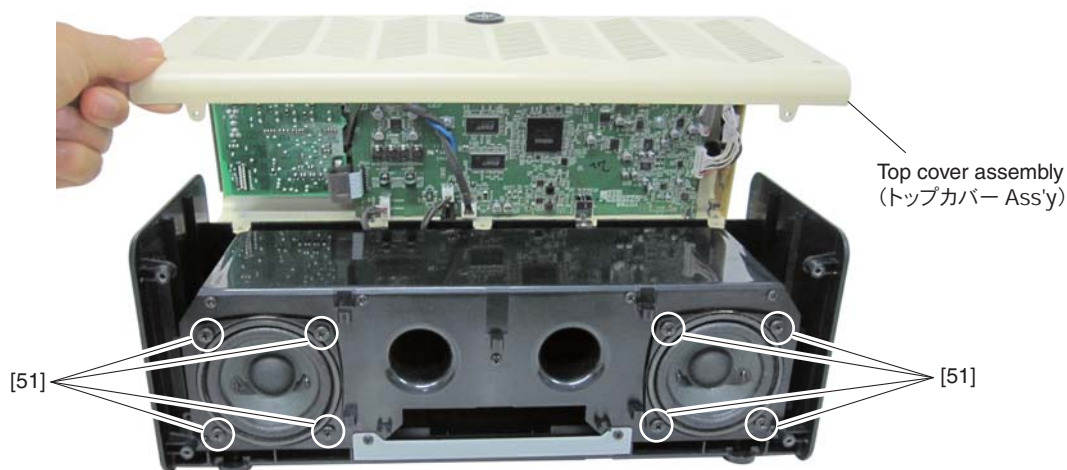

Fig. 5 (図 5)
- 6-2 Remove the four (4) screws marked [51]. The speaker can then be removed. (Fig. 5)
- 6-2 [51]のネジ4本を外し、スピーカーを外します。(図5)